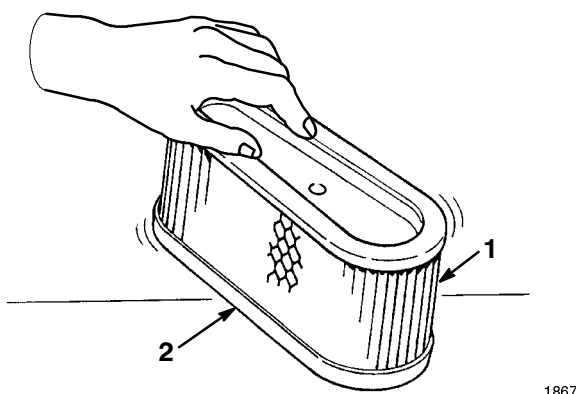

Figure 33
- A. Lightly tap the element on a flat surface to remove dust and dirt (Fig. 33).